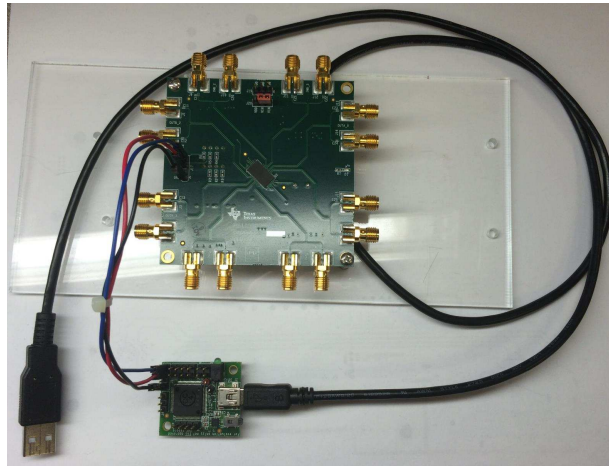

Figure 25. Example of DPS-DONGLE-EVM Connected to a DS125BR401AEVM
- DPS-DONGLE-EVM with USB cable and pin connector jumper wires (see Figure 25 - Figure 27)